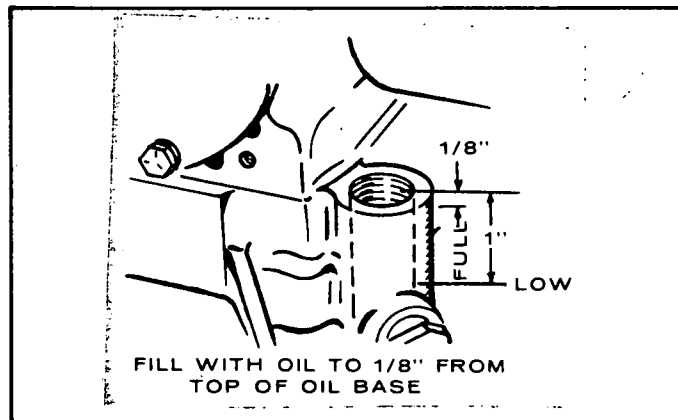

FIGURE 1. CRANKCASE OIL LEVEL
1. **Oil Level:** Check oil level at least every 8 hours of operation. Check more frequently on a new or overhauled engine as oil consumption is higher until piston rings seat properly. See Figure 1.